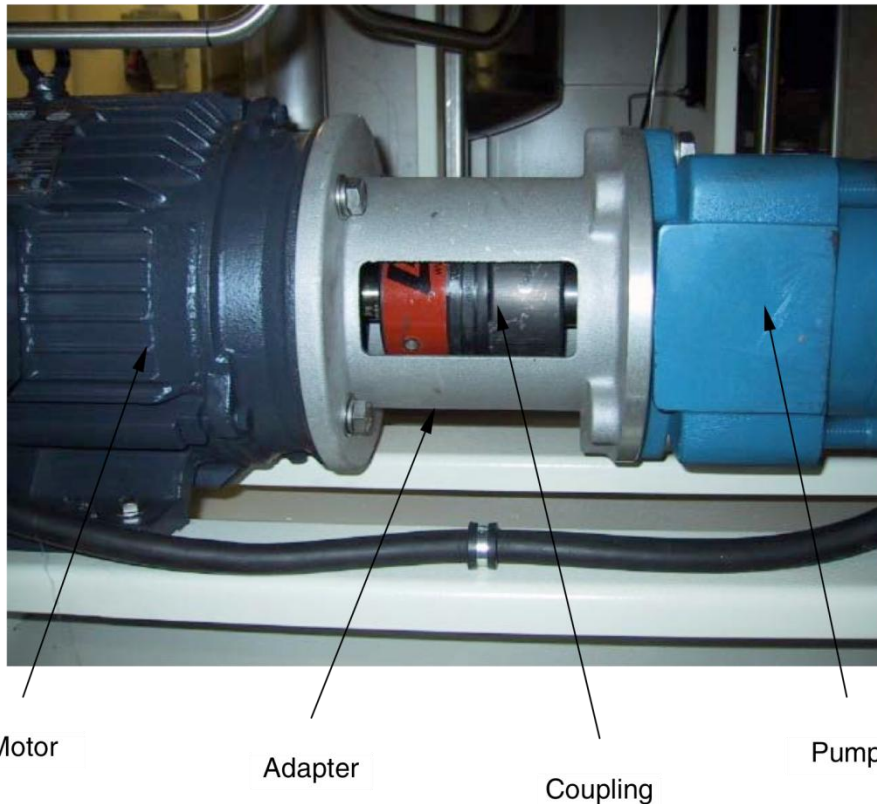

FIGURE 10 - Motor/Pump Assembly Repair
9.3 MOTOR/PUMP ASSEMBLY REPAIR (FIGURE 10)